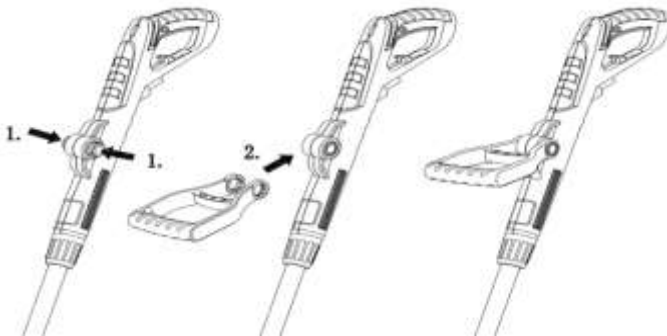

Fig. 2
1. Mounting the auxiliary handle and adjusting the angle. Refer to Fig.2
- Press the adjusting knob (6). (step1)
- Insert the auxiliary handle(9) into the main handle(8), then release the adjusting knob(6).(step2)
- Press the adjusting knob (6) to adjust the angle of auxiliary handle to your preferred position.